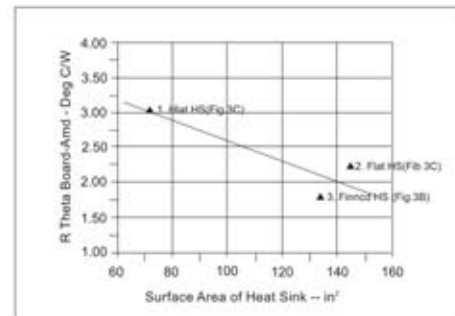

Figure 9. High Density Emitter Heat Sink Total Array Thermal Resistance (Board to Ambient) vs. Surface Area Exposed
B. Heat Sinks in Free Convection - Dense Emitter Spacing When WAH WANG Power LED is densely packed, they function as a single heat source. This chart will help you characterize the WAH WANG Power LED as well as custom Level 2 Boards with emitter spacing between 9 and 13 mm. This chart can also be used to characterize heat sinks for clustered Power LED, with spacing up to about 19 mm. For wider spacing, use the charts in Section B. The following chart in Figure 9 shows the Total Array R_θ B-A vs. heat sink area required for the total array. It is the total array R_θ B-A shown in Figure 2, which is the thermal resistance model for multiple emitter products.
We characterized three types of heat sinks using 12 and 18 WAH WANG power LED Floods. The results are shown in Figure 9. All heat sinks were vertically orientated with free convection on all sides. We tested
both flat plate (see Figure 3D test set-up) and finned heat sinks (see Figure 3B.) Figure 9 should be most useful in sizing heat sinks for custom applications that use ten to twenty Power LED. However, it can also be used as a rough guide for sizing heat sinks for applications with about 3 to 20 densely spaced Power LED.